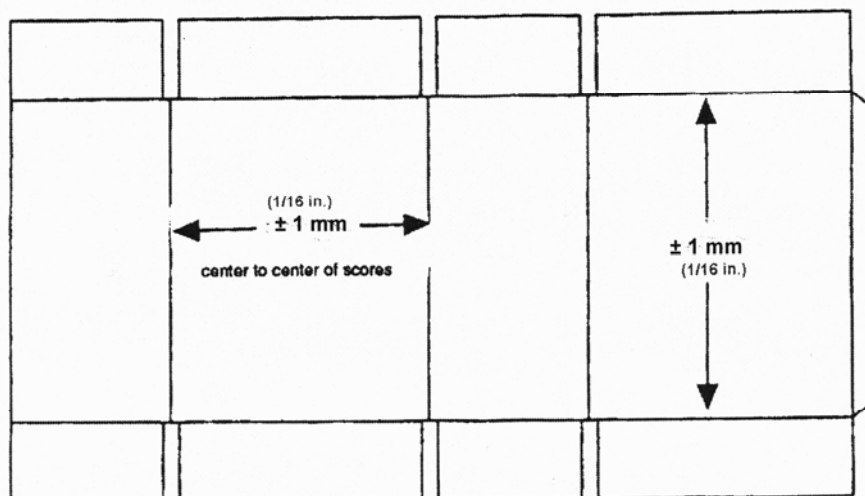

Fig. 1 Proper layout of the blank on a flat surface.
- 6.2 Lay out the blank upon a flat surface with the inside of the blank facing upward with the glue tab on the right-hand side (see Fig. 1).